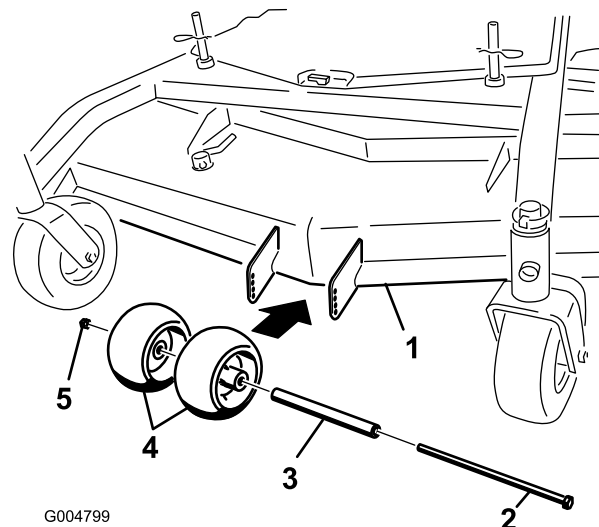
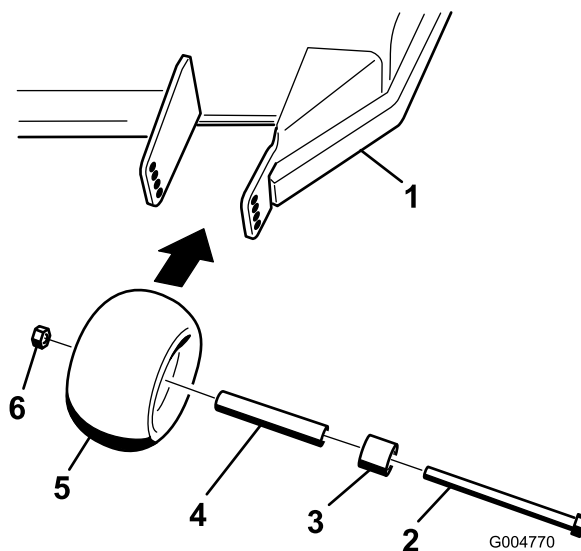
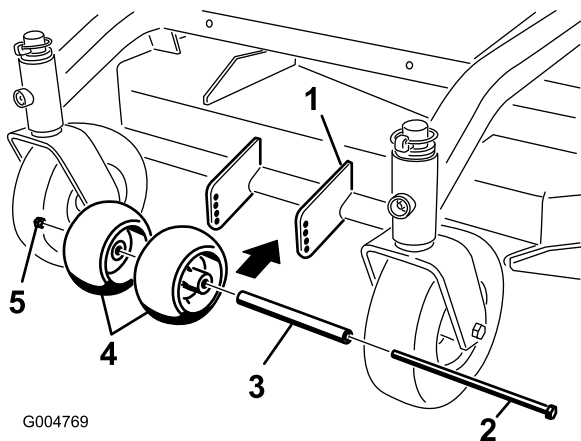

Figure 14
Figure 15
Figure 16
1. After adjusting height-of-cut, check the anti-scalp rollers so that there is a minimum of 3/8 inch (10 mm) clearance above the ground (Figure 14, Figure 15, Figure 16).
2. If adjustment is needed, remove the bolt, washers and nut (Figure 14, Figure 15, Figure 16).
3. Select a hole position so the anti-scalp rollers are a minimum of 3/8 inch (10 mm) off the ground (Figure 14, Figure 15, Figure 16).
4. Install the bolt and nut (Figure 14, Figure 15, Figure 16).